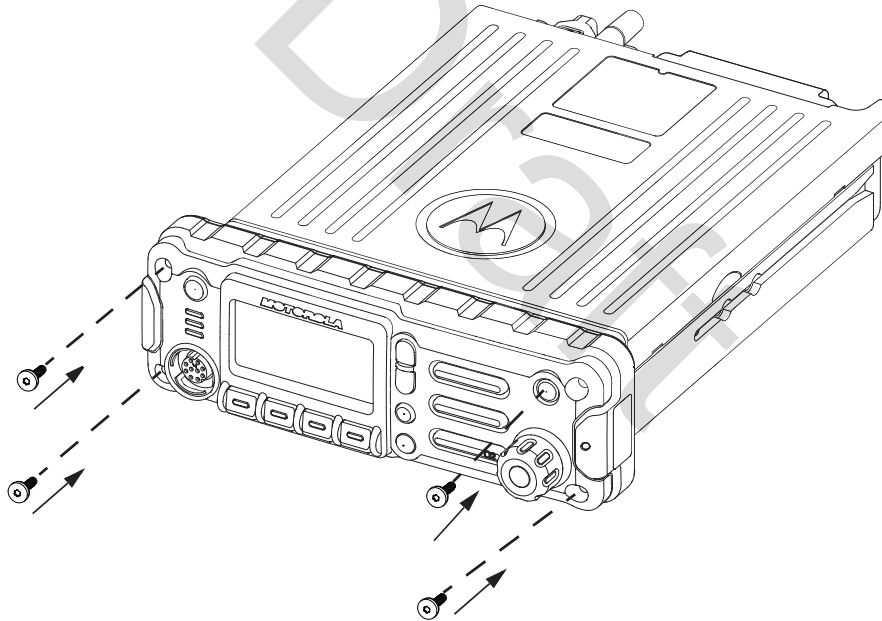

Figure 2-43. Reattaching the Control Head
- Reattach the front housing assembly to the back housing assembly as shown in Figure 2-43. Make sure that the flex is returned to its original position and that the o-ring on the back housing assembly is not pinched.
- Secure the front housing assembly back to the back housing assembly with four new screws using the Torx T-20 bit as shown in Figure 2-43. Apply 9 in. lbs. torque for each screw.